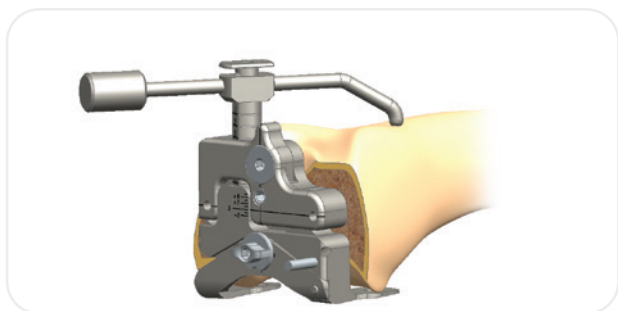

Figure 13
3. Position the sizing guide stylus so that it contacts the lateral ridge of the anterior femoral cortex (highest point on the anterior cortex of the femur) (**Figure 13**).